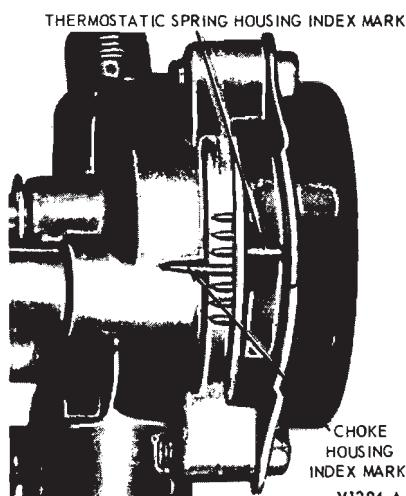

FIG. 22—Automatic Choke Thermostatic Spring Housing Adjustment
2. Loosen the thermostatic spring housing clamp retaining screws. Set the spring housing to the specified index mark (Fig. 22) and tighten the clamp retaining screws.
Connect the carbon canister purge tube (Fig. 22) on vehicles equipped with a carbon canister fuel evaporative emission system.